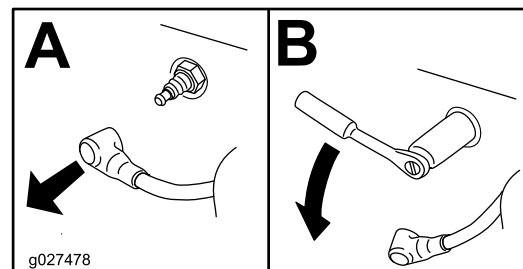

Figure 31
3. Remove the spark plug (Figure 31).